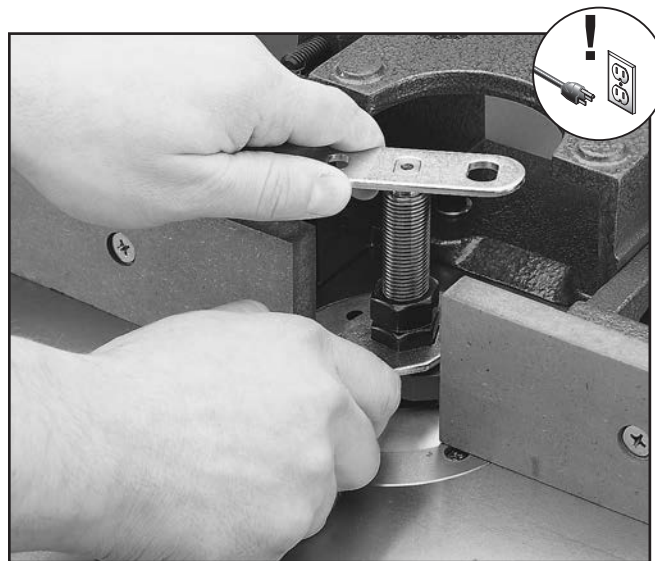

Figure 37. Tightening spindle nuts.
7. Tighten the nuts while holding the spindle stationary. Place a spindle wrench on the notches at the top of the spindle for leverage, as shown in **Figure 37**.